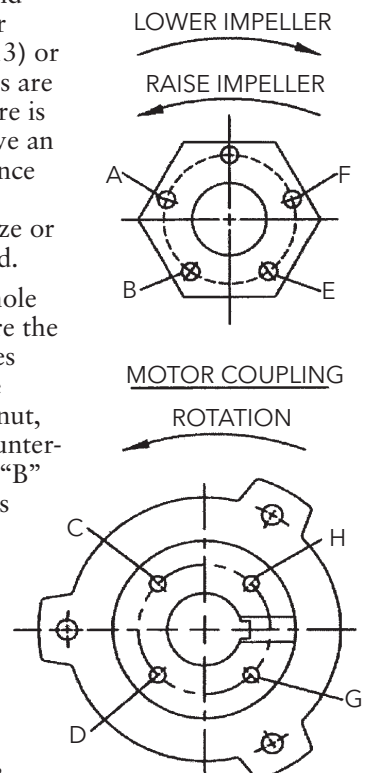

Figure 13
NOTE: Shaft adjustment up or down is accomplished by turning the adjusting nut (604) Figure 13.
NOTE: There are five holes in the adjusting nut and only four in the motor coupling. See Figure 13.
1. With shafting all the way down and the impellers resting on their seats, turn the adjusting nut (604) in counter-clockwise direction, thus lifting the shaft, until the impellers just clear their seats and the shaft/motor turns free by hand. This removes all deflection from the shaft.
2. Align hole "A" in the adjusting nut (604) and hole "C" in the driver coupling (See Figure 13) or whatever similar holes are in like position. If care is exercised, this will give an initial impeller clearance of 0.001" to 0.003" depending on shaft size or the pitch of the thread.